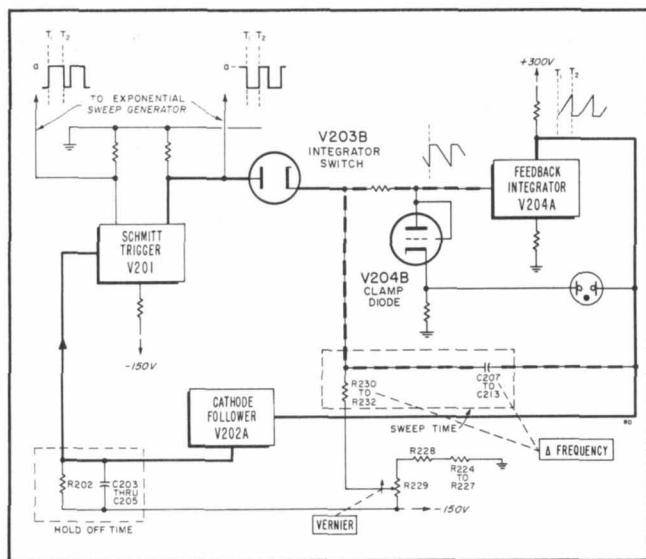

Figure 3-8. Simplified Schematic of Sweep Circuit
The linear sweep generator consists of a Miller feedback integrator (V204A) which generates a linear voltage sweep whose slope can be adjusted by changing the charging rate of the integrator capacitor (C207 to C213). The Δ FREQUENCY (MC) range switch (part of which is shown in figures 3-8 and 4-26) changes the values of the integrator resistors (R230 to R232) and capacitors (C207 to C213) to obtain step changes
The feedback integrator is made automatically recurrent, and the output is made constant in amplitude by operating the schmitt trigger (see figures 3-8 and 4-26) from the output of the integrator. After being unlocked by the schmitt trigger, the integrating circuit charges to a predetermined level established by the sensitivity of the trigger. At this level, the feedback voltage causes the trigger to change state. The trigger relocks the integrator circuit and terminates the sweep with a rapid flyback. Trigger tube V201A is held conducting for a predetermined period of time by a charge on C205 and supplementary capacitors to allow time for circuit recovery. As the capacitors discharge, trigger V201 returns to its original state which, in turn, unlocks the integrator circuit so it can generate another sweep.